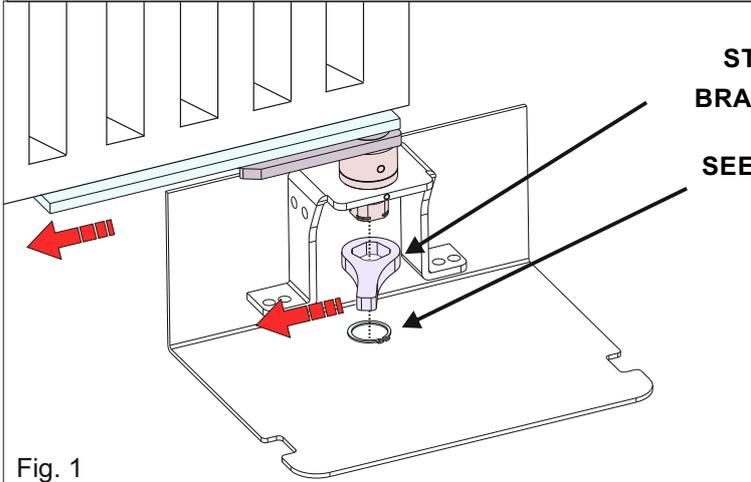
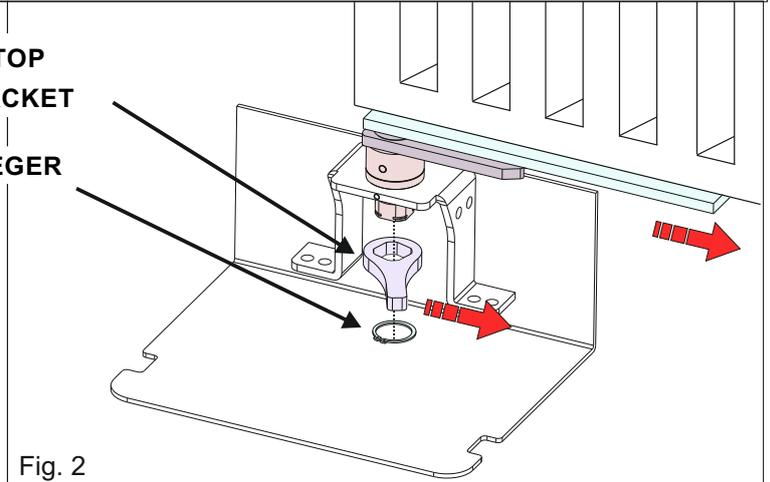

Fig. 1
Fig. 2
1. Insert the stop bracket into the box shaft, ***making sure it is oriented in the same direction of the leaf support bracket***, then lock it with the seeger (Fig. 1 and Fig. 2)